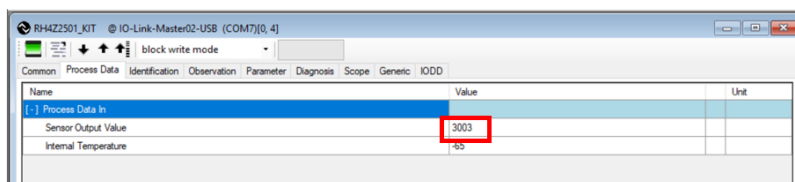

Figure 16. Read Values
- e. Turn the potentiometer to have the PD fit the set thresholds. The read values are visible in the 'Process Data' tab of the 'RH4Z2501_KIT' window, see Figure 16. LED1 is switched on.